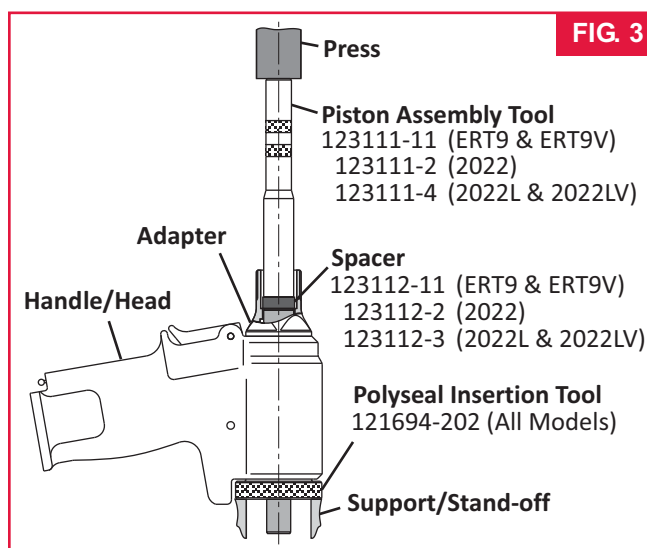

FIG. 3
16. (Fig. 3) Thread Polyseal Insertion/removal Tool, into rear of Handle/head.